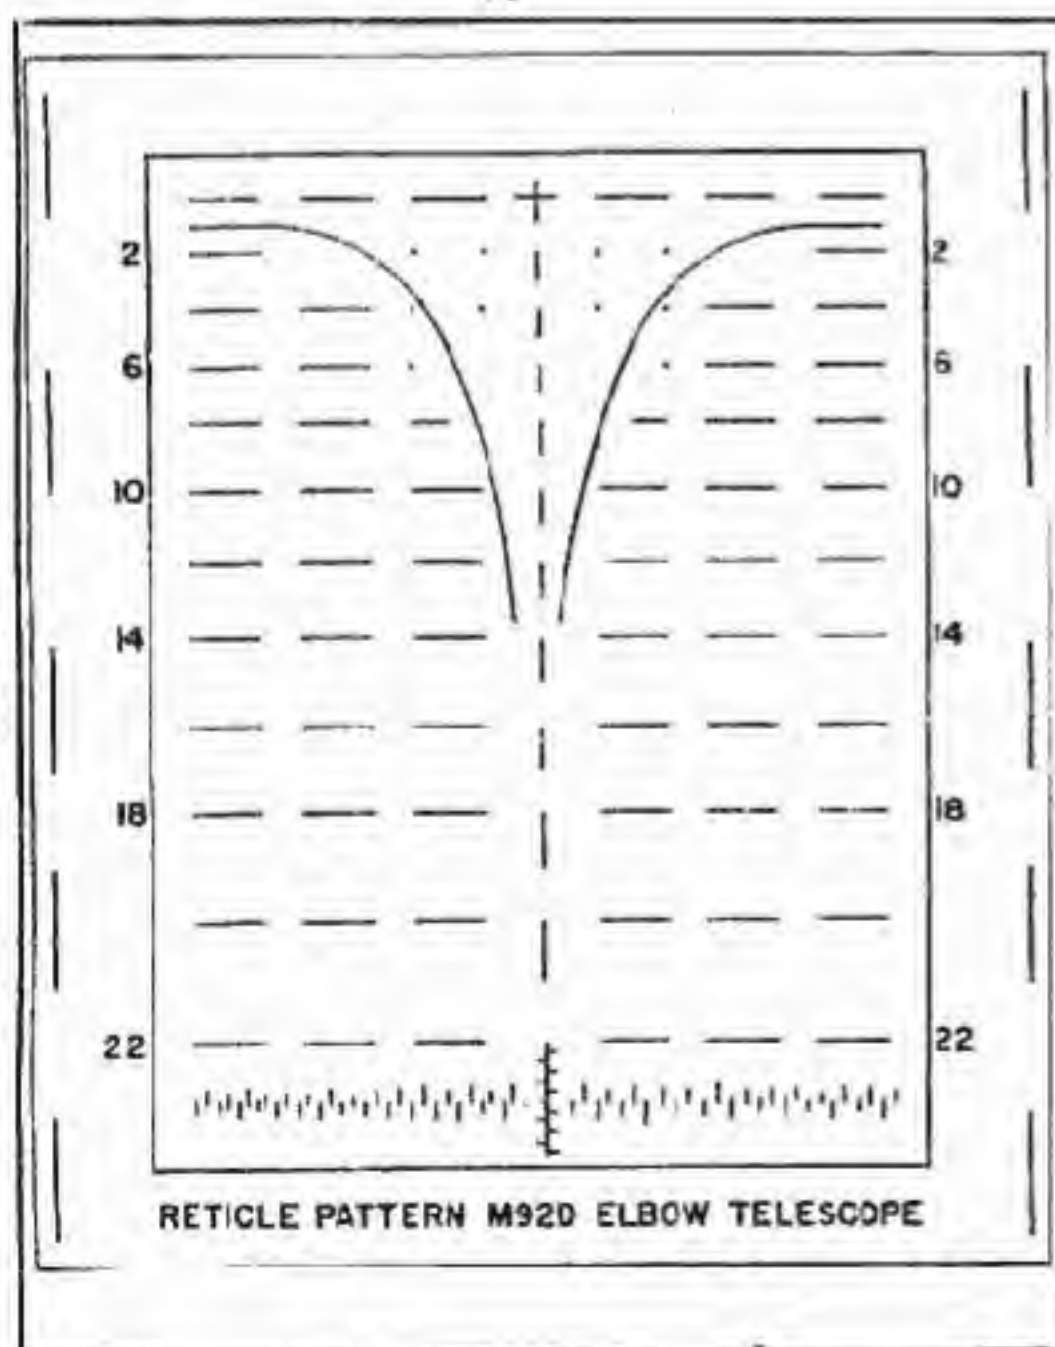

Figure 6
6. M92D TRAINING AID (Figure 6) - Handy for teaching sights and sight
- Trace the reticle pattern (Figure 6) onto a piece of acetate or strong tracing paper.